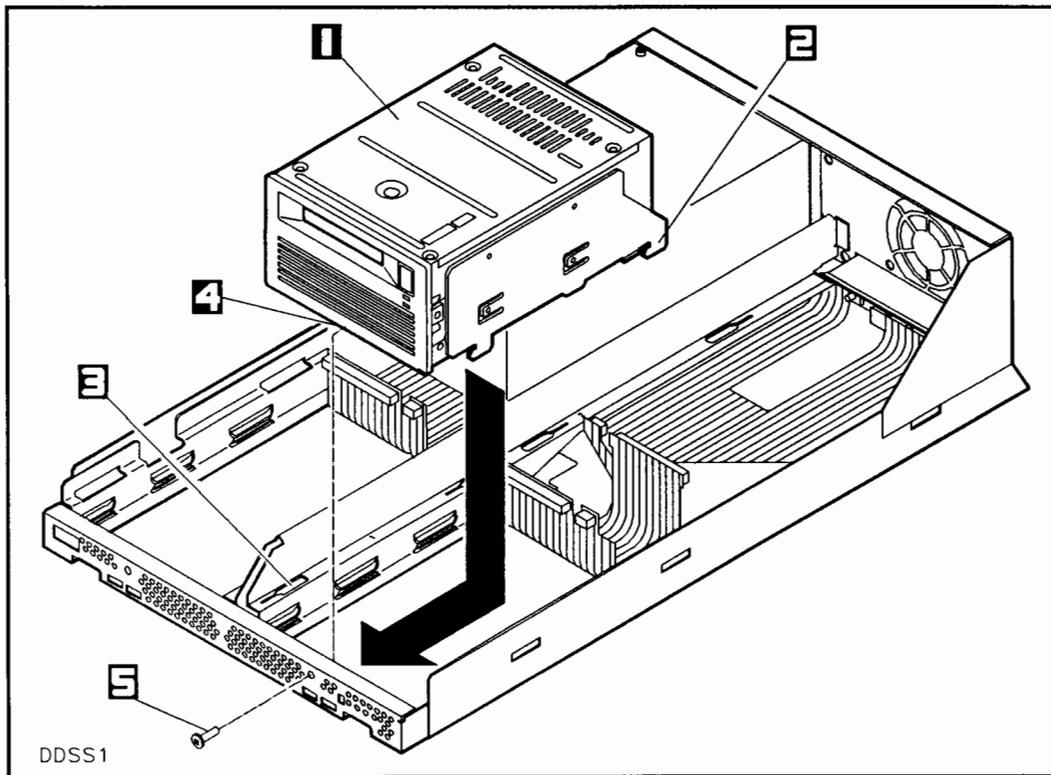
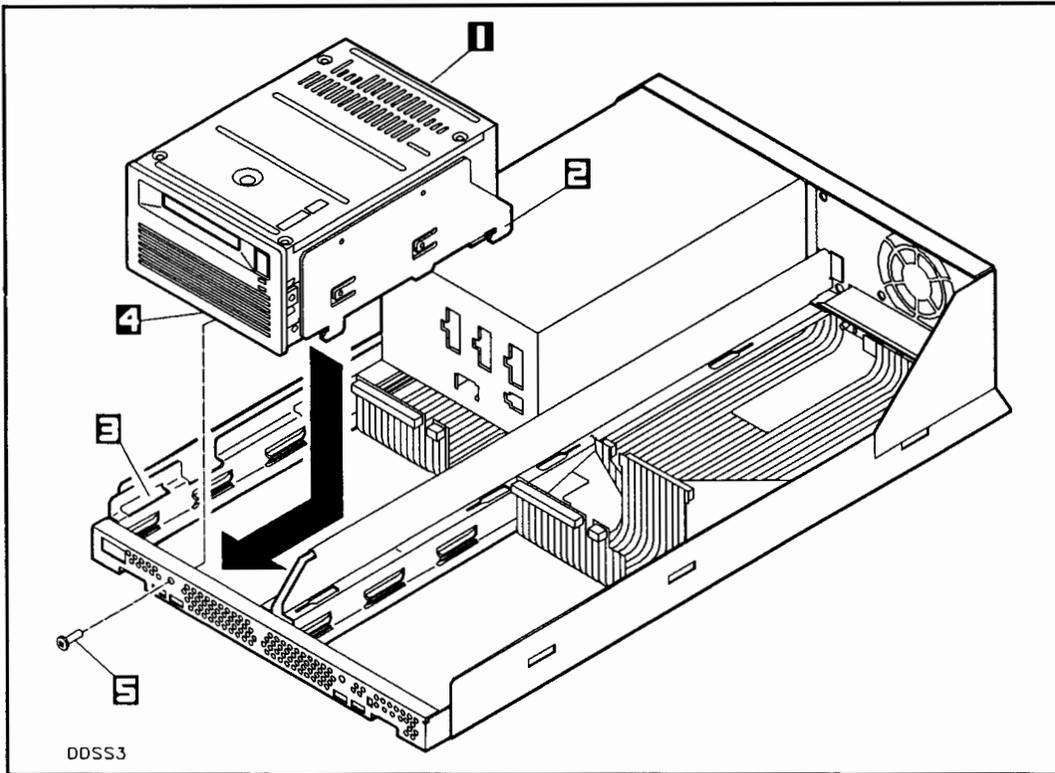

Figure 5-10. Installing the DAT Drive into Slot 1
Figure 5-11. Installing the DAT Drive into Slot 3
Install the DAT drive into the mass storage system as follows (see Figure 5-10 or Figure 5-11):
1. Remove the T25 screw from the front of the mass storage system chassis (see Figure 5-10).